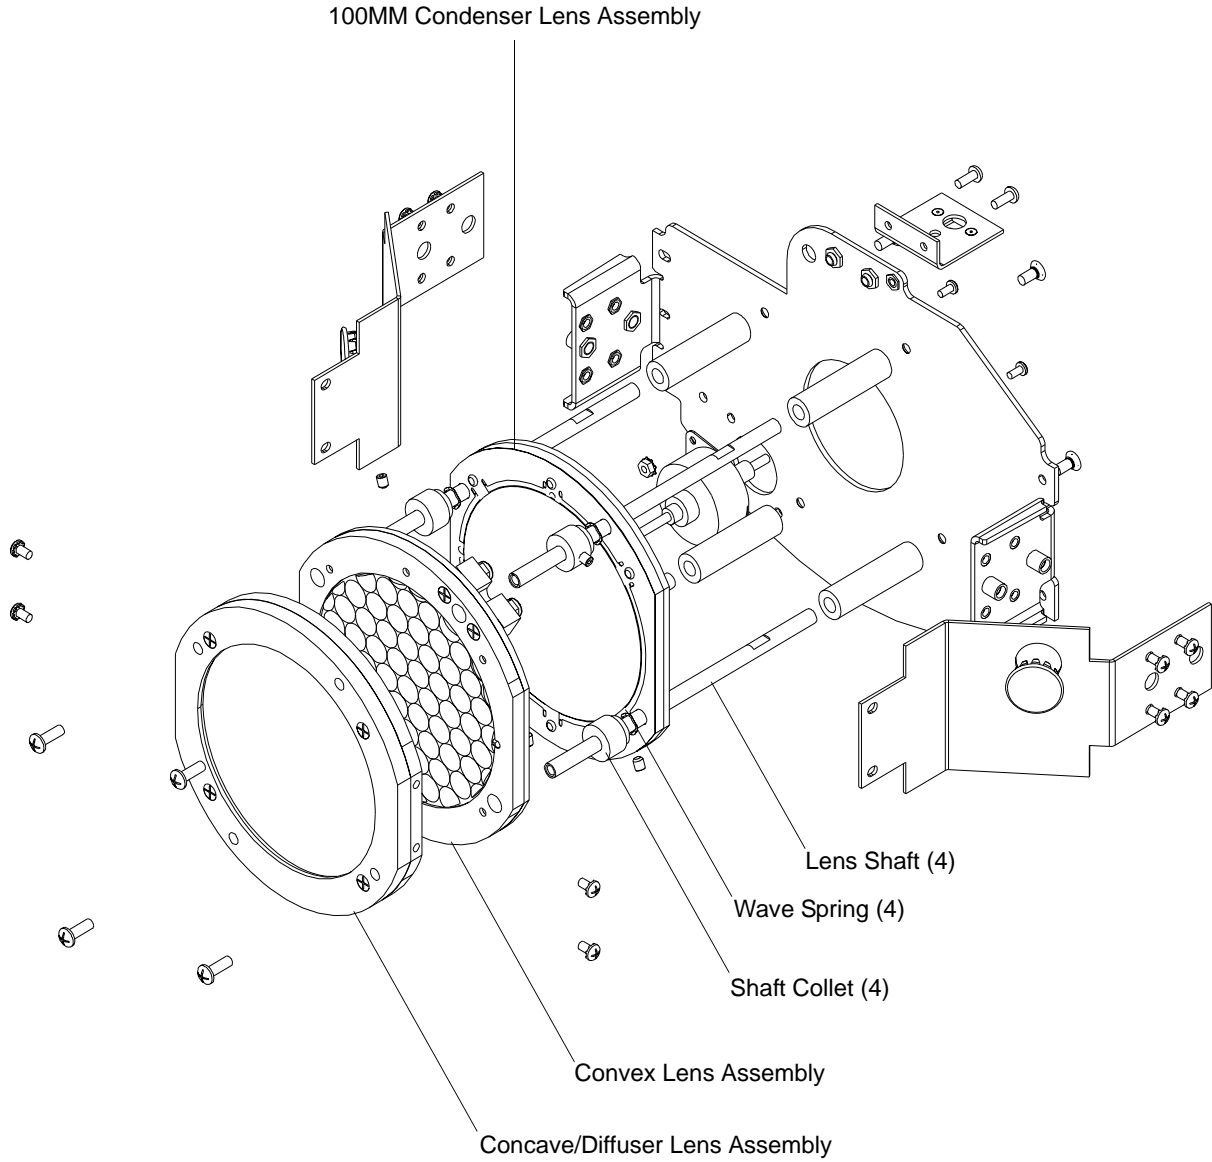

Figure 2-11: 100MM Condenser Lens Assembly Replacement
- Step 5. Using 5/64 " Allen wrench, loosen eight setscrews (two each collect), and remove four shaft collets and four wave spring washers from lens shafts (Figure 2-11).